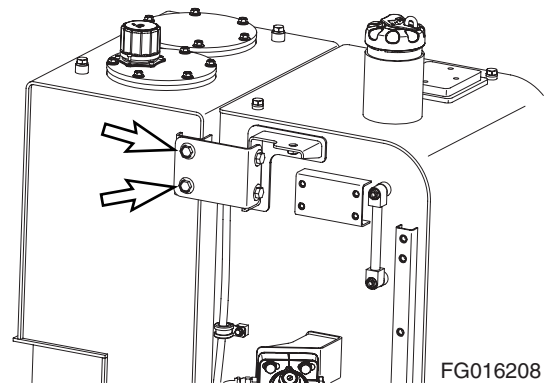

Figure 11
15. Remove bolts of bracket connect with fuel tank (Figure 11).